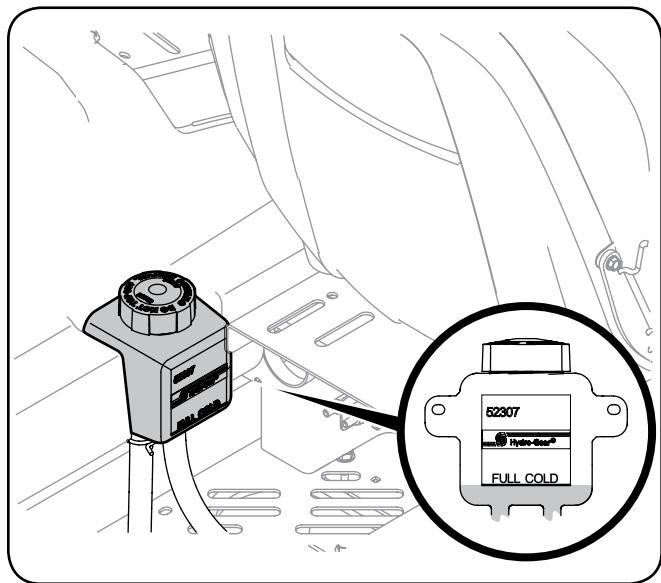

Figure 18
1. Pivot the operator's seat forward and clean the reservoir cap and the area around the cap to prevent debris from contaminating the transmission oil. See Figure 18.
2. Turn the reservoir cap counterclockwise to re-move, then check the oil level in the reservoir. Oil should be visible at the bottom of the cup, but the oil level must NOT be above the "FULL COLD" line. See Figure 18. DO NOT FILL THE RESERVOIR.